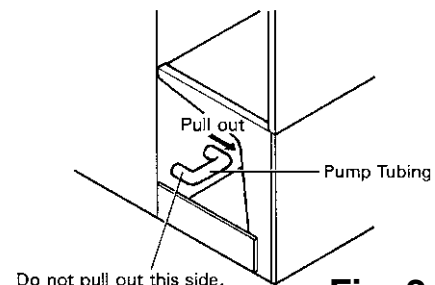

Fig. 2
- 4) Drain the water tank by removing one end of the pump tubing. (See Fig. 2.) Refit the hose back into position.